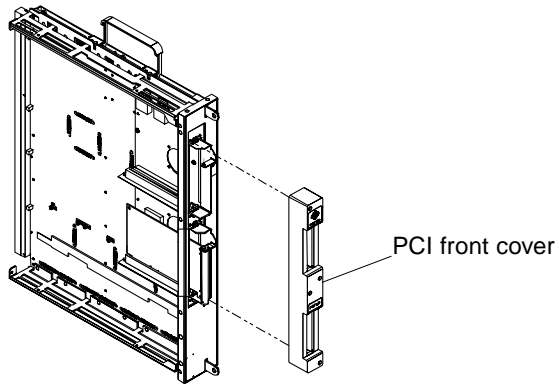

FIGURE 2-4 PCI Front Cover
1. Attach a wrist strap and loosen the four captive screws on the PCI front cover and remove from the system board front plate (FIGURE 2-4).
12. **Install the PCI front cover (FIGURE 2-4).**